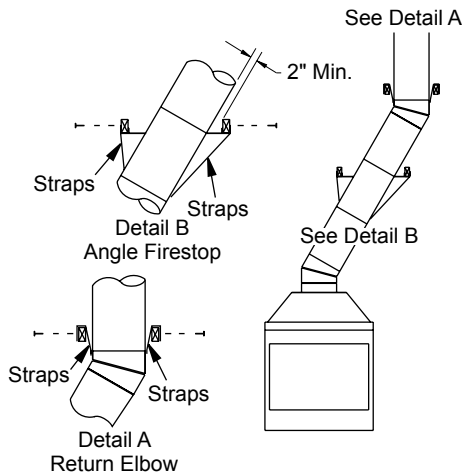

Figure 8 - Ceiling Support Pipe
2. Chimney weight above offset rests on return elbow. Straps must be securely nailed to rafters or joists (see Figure 8, details a and b).